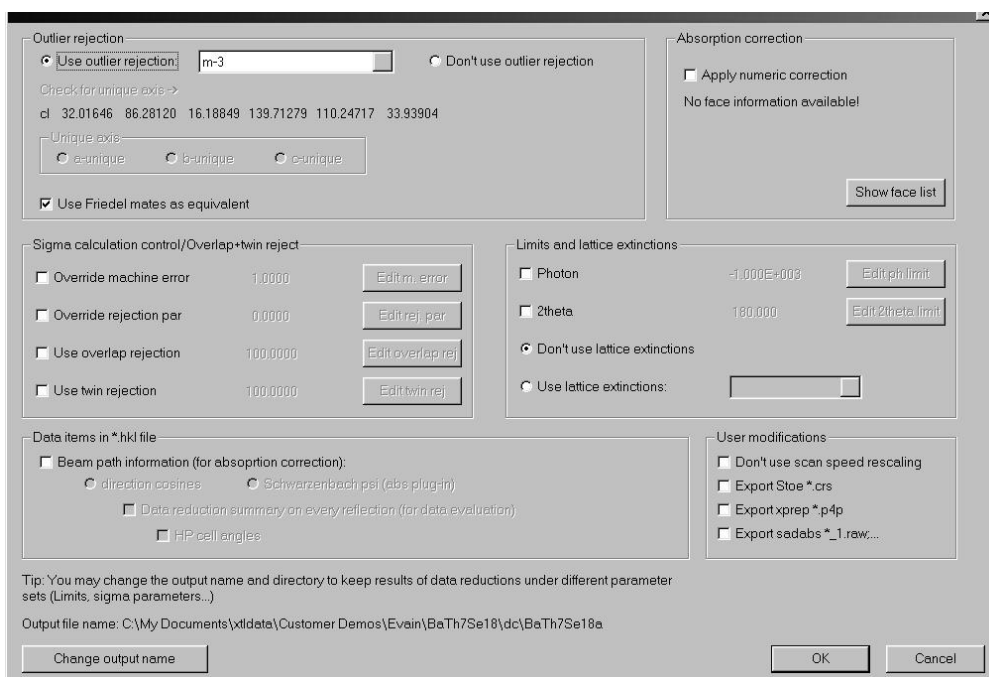

Figure 6.5.20 Screenshot of data reduction finalisation window
2. A window such as figure 6.5.20 will be opened. This window allows the user to do the last stages of data reduction, applying Lattice extinction, absorption correction, 2 theta limits etc. The window also allows the user to output data in an alternative format and / or with direction cosines.